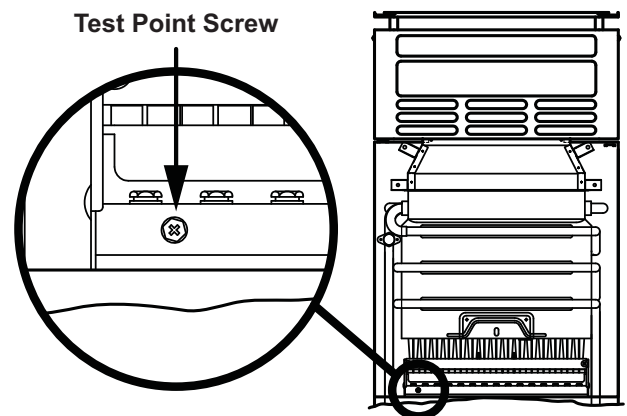

Figure 5.
9. Isolate gas and water supplies. Remove the test point screw located to the burner pressure test point on the left hand side of burner manifold as shown right and attach pressure gauge Figure 5.